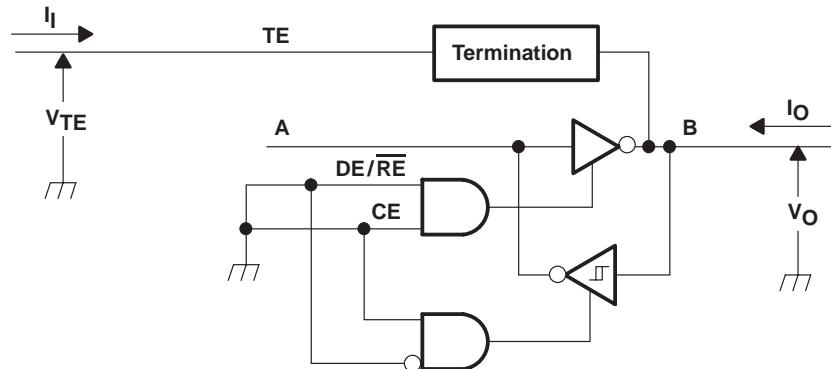

Figure 2. Active Termination Voltages, Currents, and Test Circuit.
**termination electrical characteristics over recommended operating conditions (unless otherwise noted) (see Figure 2)**